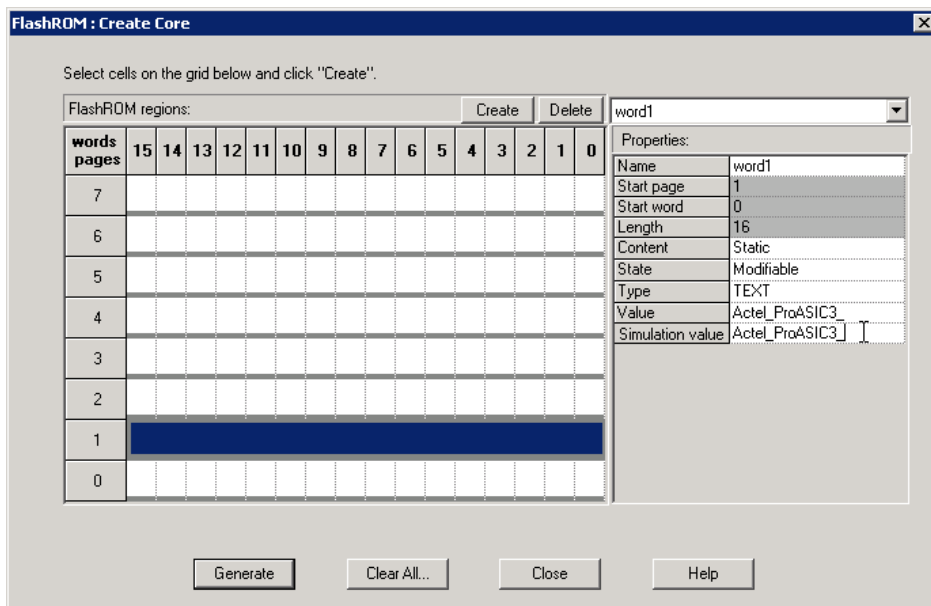

Figure 3-5. Configuring the FlashROM in SmartGen
6. Select FlashROM page 1 in the FlashROM Regions section, and click **Create**. Enter the following in the Properties section of the Create Core dialog box (Figure 3-5):